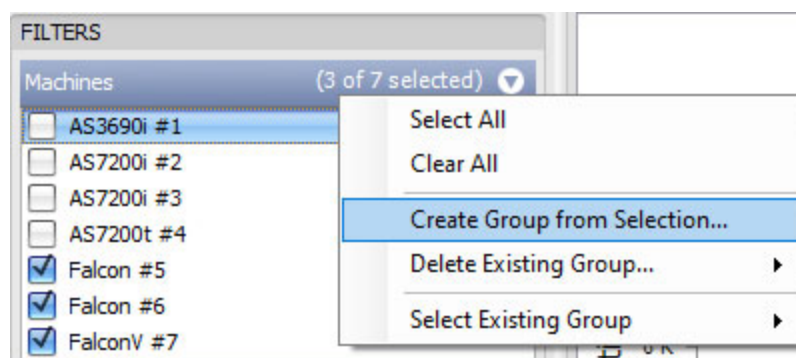

Figure 4-10: Create Group from Selection
2. Right-click on the filter heading, and a filter tools menu will open (Figure 4-10).
3. In the filter tools menu, click **Create Group from Selection** (Figure 4-10).